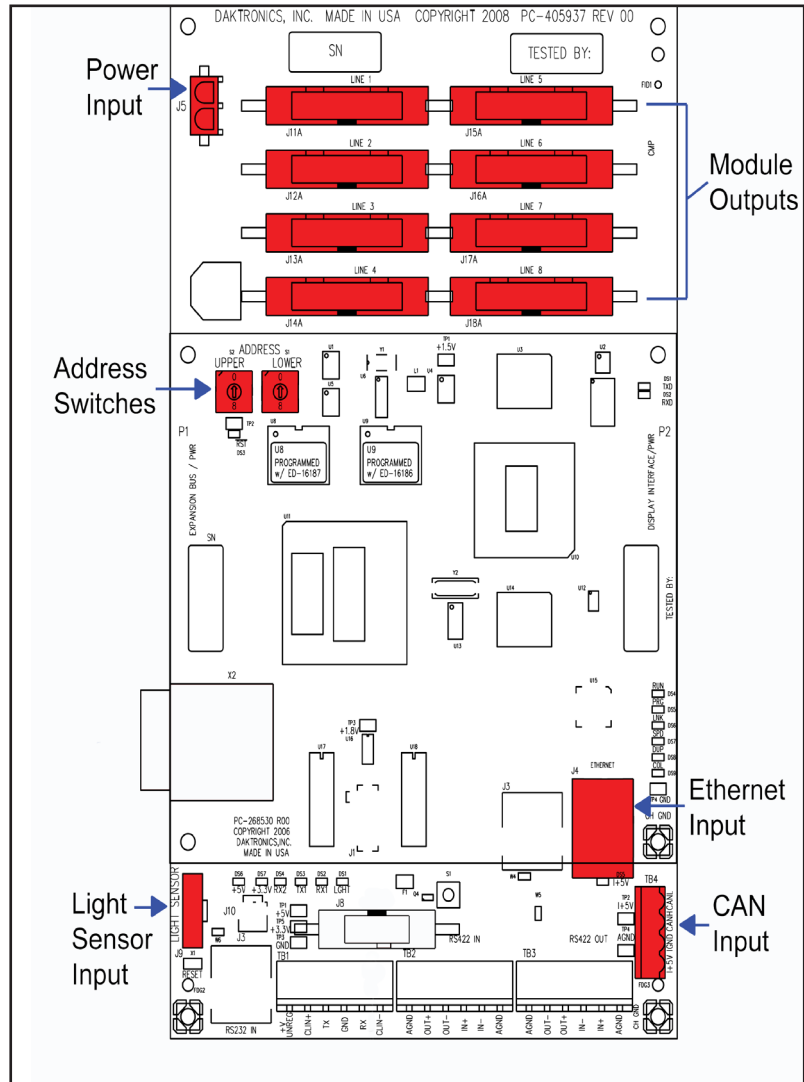
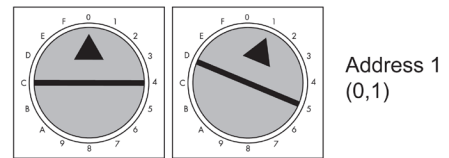

Figure 14: Display Controller
Figure 15: Rotary Address Switches
7. Take note of the rotary address on the controller to ensure the address on the replacement board is the same (see **Figure 14** and **Figure 15**).